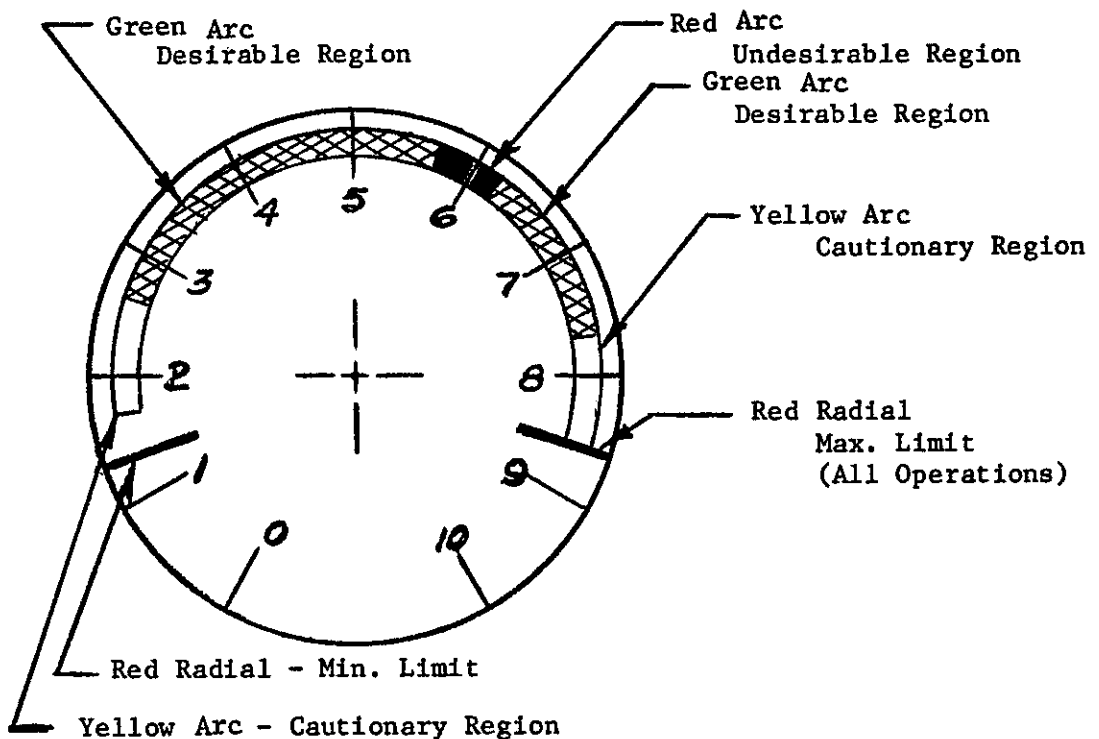

Figure 1. Instrument Dial Illustrating Range Markings for Continuous Operation. No Scale.
5. SUGGESTED METHODS OF MARKING AIRCRAFT POWERPLANT INSTRUMENTS. A hypothetical instrument dial with illustrative range markings is shown in Figure 1. This dial face is intended only as a guide; some instruments will need only a few of these markings.